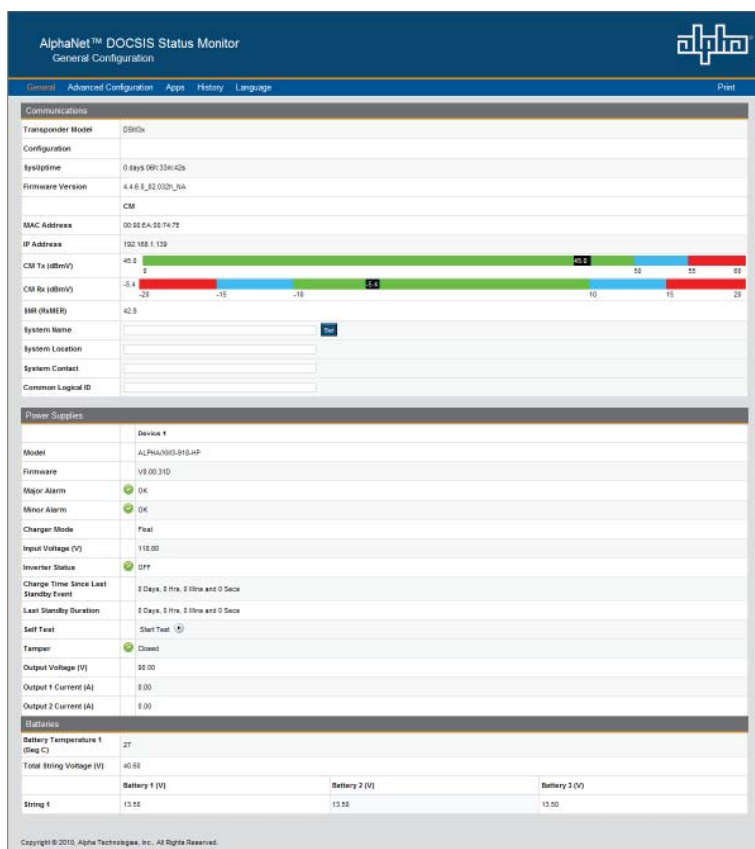

Fig. 2-12, DSM3 Series Web Page
4. The transponder's Web server home page will appear (Fig. 2-12). **Note: For the DSM3 Series, this may take up to 45 seconds when the transponder is initially powered up with no RF connection.**